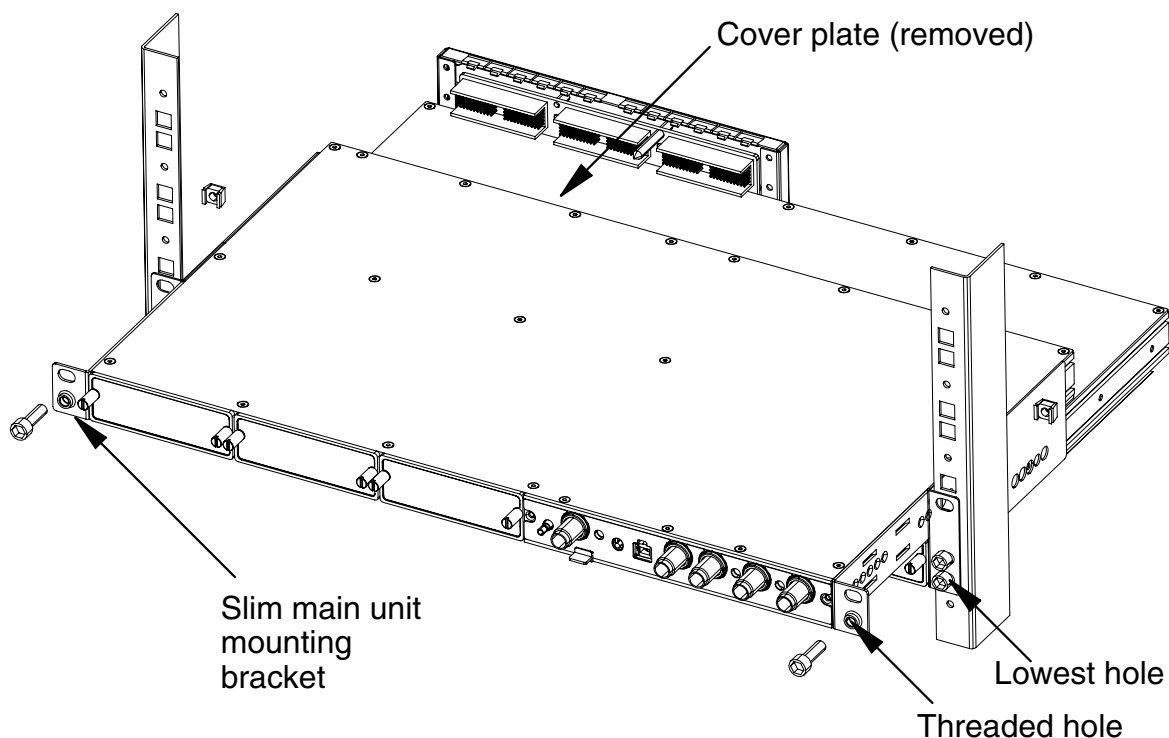
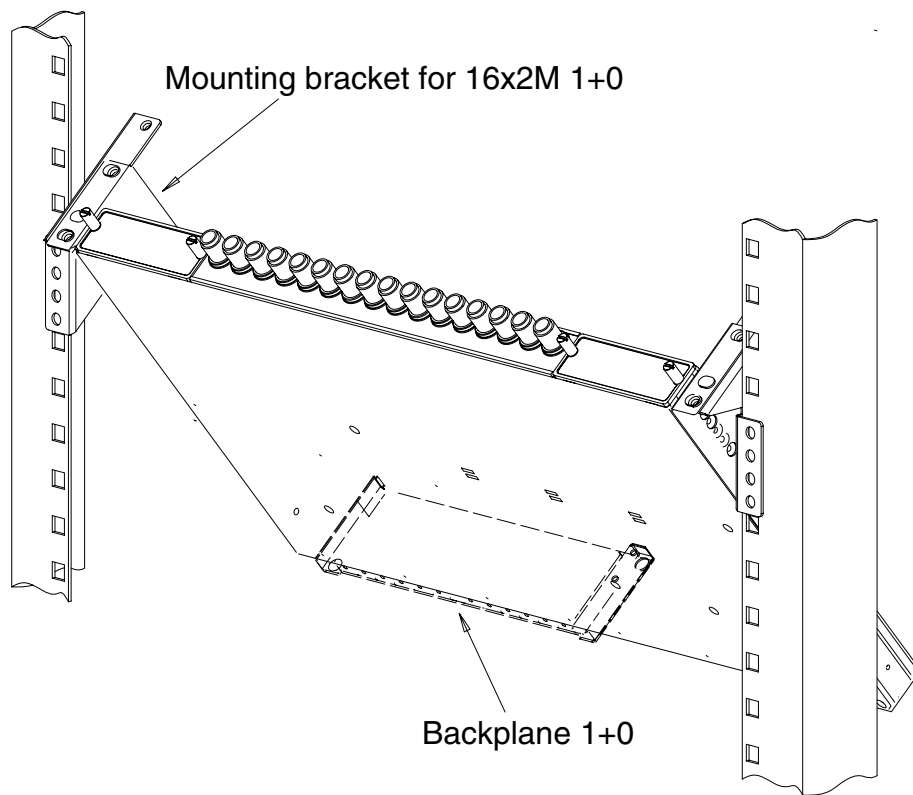

Figure 4. Installing FIU 19 16 x 2M 1+0 in a 19-inch rack, phases 3 - 6
Figure 9. Installing FIU 19 16 x 2M 1+0 in an ETSI rack
3. *(When applicable)* Replace the normal 1U mounting brackets of the main unit with slim brackets. Use the same Torx screws that were used with the 1U brackets. The brackets should be as shown in Figure 4, free hole up, threaded hole down.
5. Put the rack mounting nuts (6 pcs) to the rack and fix the assembly to the rack with four screws, first through the lowest bracket holes (Figure 4). Tighten the screws with a 5 mm Allen key.
To install FIU 19 (E) with 16 x 2M capacity (1+0) in an ETSI rack, follow the instructions in Section 4.1.2. Ignore the use of rack mounting nuts. They are not needed in this installation. Put the expansion unit to the rack as shown in Figure 9 and the main unit above the expansion unit (see Figure 4).
4.2.3 FIU 19 (E) with 16 x 2M capacity and 1+1 protection